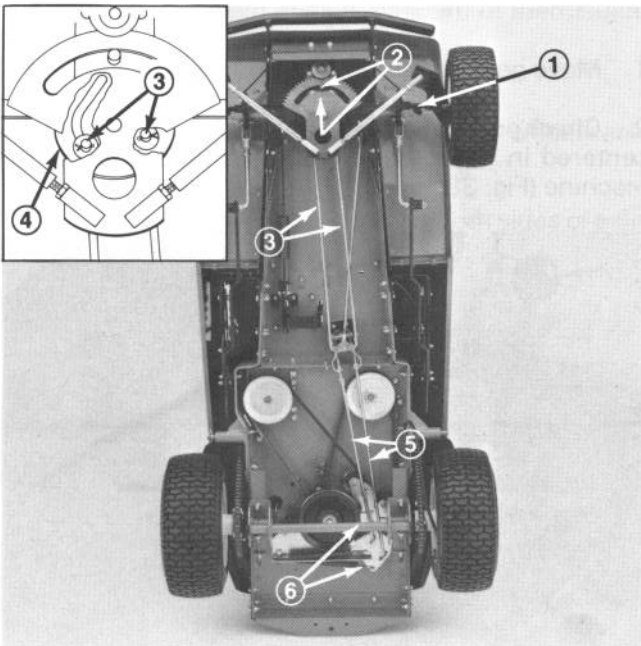

Figure 40
1. Assure Front Axle is level with frame and steering rack timing mark is centered on steering stop pin (Fig. 40).
2. Check to make sure ends of front pull rods are positioned at the rear of the slots in the pull rod plate (Fig. 40 inset).
3. Adjust jam nuts on rear pull rods so the bent ends of the rods are on center to 1/8" behind the center of the slots in the traction pivot plates (Fig. 40 & 41).